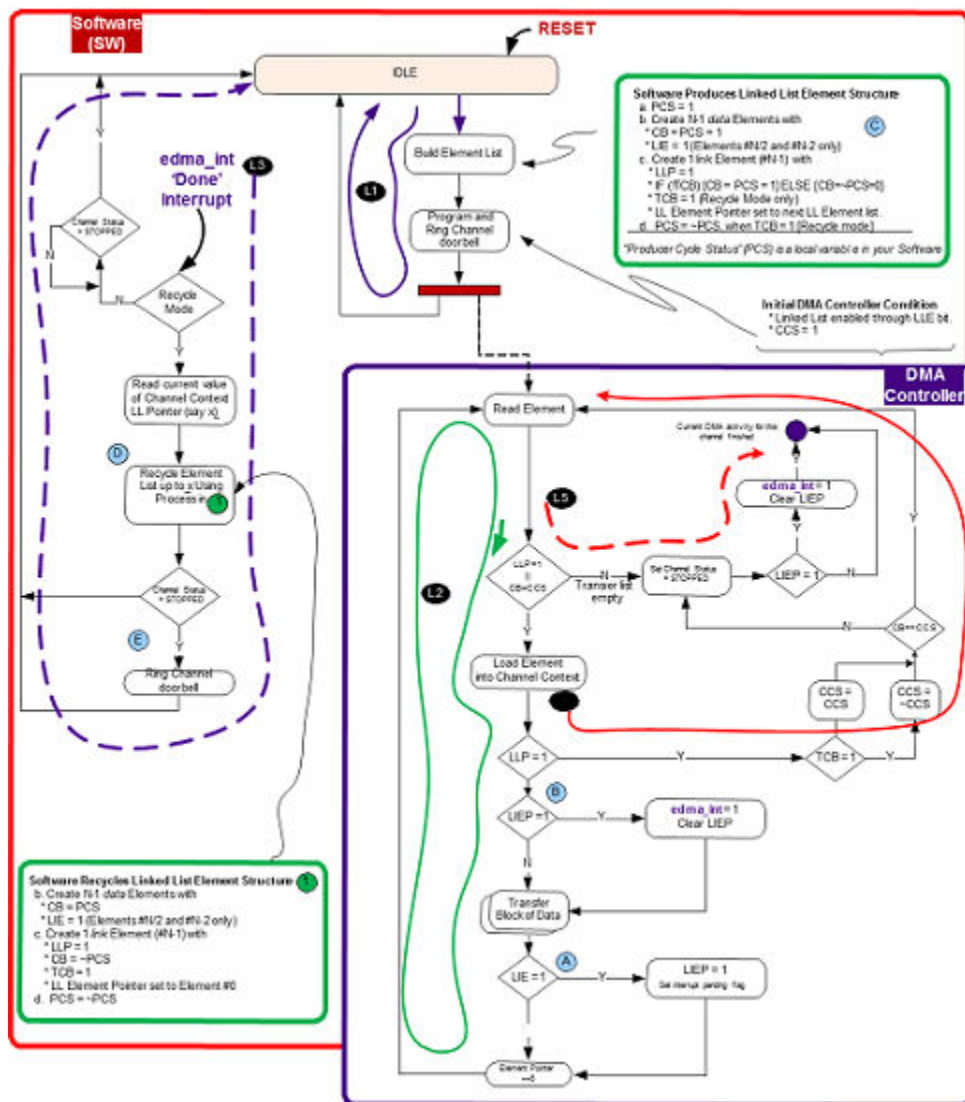

Figure 11-71. Linked List Flow for Producer and Consumer
The solid purple loop L1 in Figure 11-71 corresponds to steps 1-3.
The solid green loop L2 in Figure 11-71 corresponds to steps 4-5.
DMA correctly recognizes and consumes recycled elements. The solid red loop L4 in Figure 11-71 corresponds to step 6.
The dashed purple loop L3 in Figure 11-71 corresponds to step 7.
The dashed red loop L5 in Figure 11-71 corresponds to step 8.
When the DMA is finished with an element, the DMA checks the LIE bit, before reading the next LL element. For more details, see circled step A in Figure 11-71. When the LIE is set, then the DMA does not assert the "done" interrupt immediately, but sets an internal interrupt pending flag (LIEP). It asserts the actual done interrupt after the next data element has been read from system memory. For more details, see circled step B in Figure 11-71. This automatic internal process of delaying the interrupt avoids a race condition between the DMA and software when the LIE bit is set in an element.
- Consumer-Owned Element, or Transfer List (TL) Empty Test
The solid red loop L4 in the Figure 11-71 corresponds to this test. The Cycle Bit (CB) of DMA Channel Control 1 Register (DMA_CH_CONTROL1_OFF_WRCH_0) (which was loaded from the LL element) is tested against the DMA Consumer Cycle State (CCS) bit of the same register. When CB = CCS, the element is owned by the consumer (DMA) and the data transfer
The Dashed Red Loop Marked L5 in Figure 11-71 corresponds to this test. When the Toggle Cycle Bit (TCB) of the DMA Channel Control 1 Register (DMA_CH_CONTROL1_OFF_WRCH_0) (which was loaded from the LL element) is set to 1, the DMA toggles the CCS bit of the DMA Channel Control 1 Register (DMA_CH_CONTROL1_OFF_WRCH_0) to be $\sim CB$. The producer (software) also performs a similar action on its local variable "Producer Cycle Status" (PCS), as it sets $PCS = \sim PCS$. The TCB field is only valid in the last LL element (the link element). Toggling the PCS and CCS flags in this manner synchronizes the consumer to the producer.
1. The software builds the transfer list for the write (or read) channel, according to the steps outlined in the circled step C in Figure 11-71. For each element, $CB = PCS = CCS = 1$. The exception to this is the link element where CB is set to the next iteration value because the link element is always loaded into the channel context.
3. The software is recycling elements. It reads the channel context DMA Linked List Pointer Low Register (DMA_LL_P_LOW_OFF_WRCH_0) and DMA Linked List Pointer High Register (DMA_LL_P_HIGH_OFF_WRCH_0), and recycles elements up to this location in the TL. It sets CB for each element to be PCS. The Dashed Purple Loop Marked L3 in Figure 11-71 corresponds to this activity. The DMA continues processing (consuming) elements as before.
4. The DMA then asserts an Empty "done" interrupt (from the LIE bit in the last data element at the end of TL that was set in the previous phase) to indicate to the software, to start recycling elements again. The DMA reaches the end of the TL, and as the TCB is set to 1, it toggles its CCS bit to 0 ($\sim CB$). For more details, see circled step D in Figure 11-71.